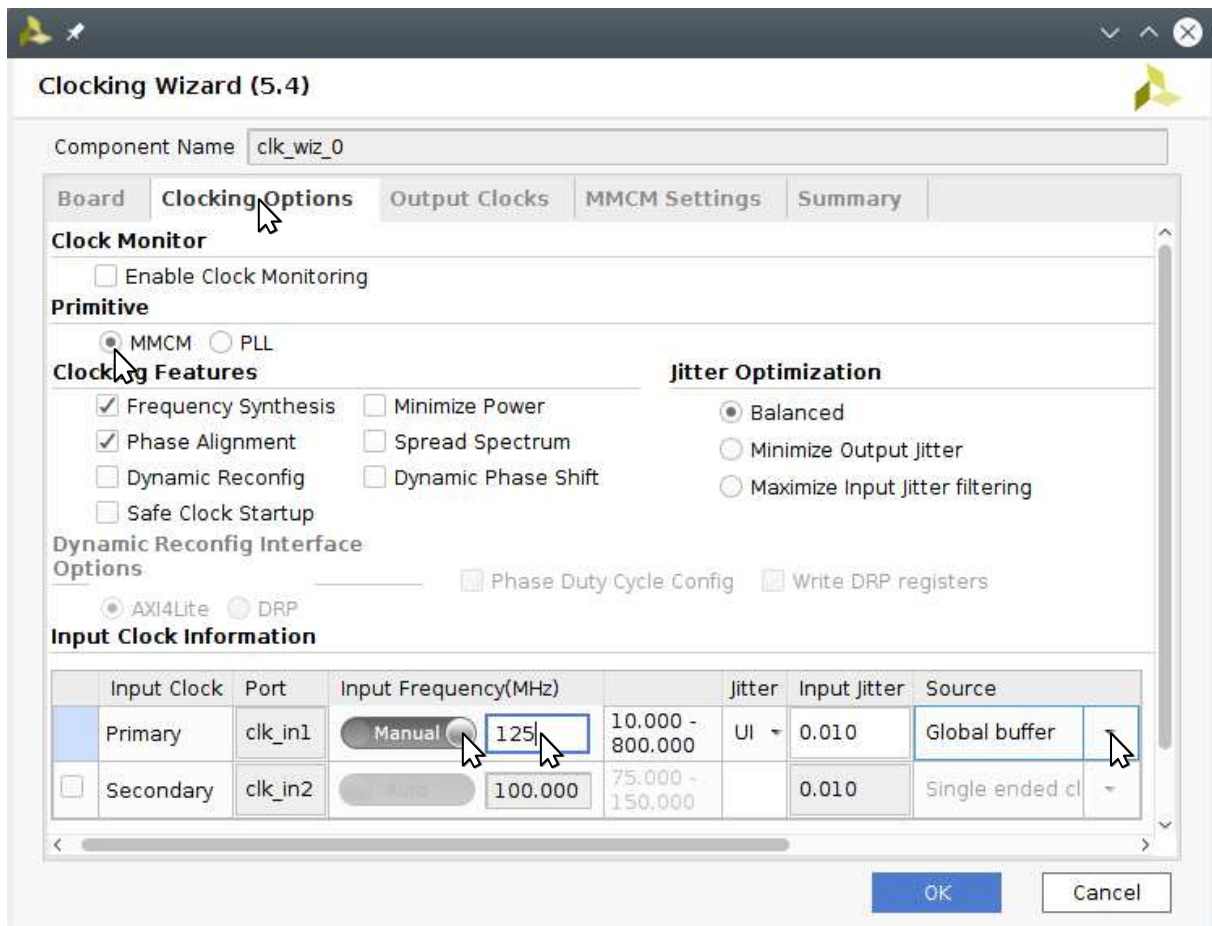
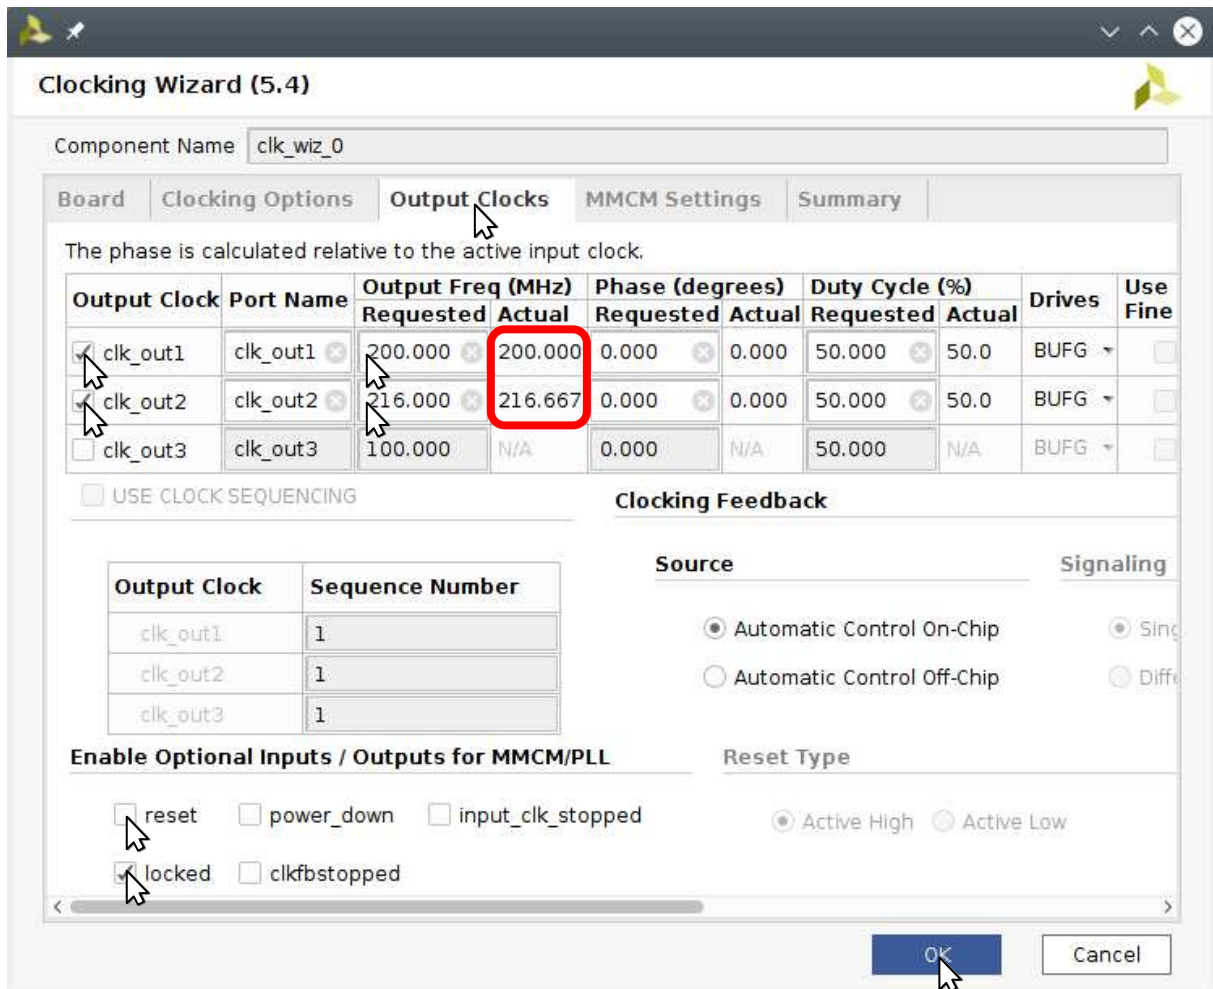

Figure 41: Re-customized “Clocking Wizard” to have a 125 MHz input clock
Figure 42: Re-customized "Clocking Wizard" to have 200 MHz and 216 MHz output clocks as well as disable the reset input
- p) The block design needs two different clocks. It requires a 200 MHz clock to be connected to the RefClk input port of the VideoSource IPB as well as a 216 MHz clock at which your IPBs will run and, thus, has to be connected to the Clock input ports of the IPBs. Available is the 125 MHz clock input pin L16 described in Figure 28. Thus, you have to customize the “Clocking Wizard” IPB to convert from this 125 MHz clock to the 200 and 216 MHz clocks. For this purpose, you customize the input of the “Clocking Wizard” to be 125 MHz as shown in Figure 41. Then, switch to the **Output Clocks** tab (see Figure 42) and select a 200 MHz clock as output on port clk_out1 and a 216 MHz clock as output on port clk_out2. Please check that the “Clocking Wizard” will really generate these clock frequencies by checking the **Actual Output Freq** column (boxed red in Figure 42). Moreover, disable the reset input pin.